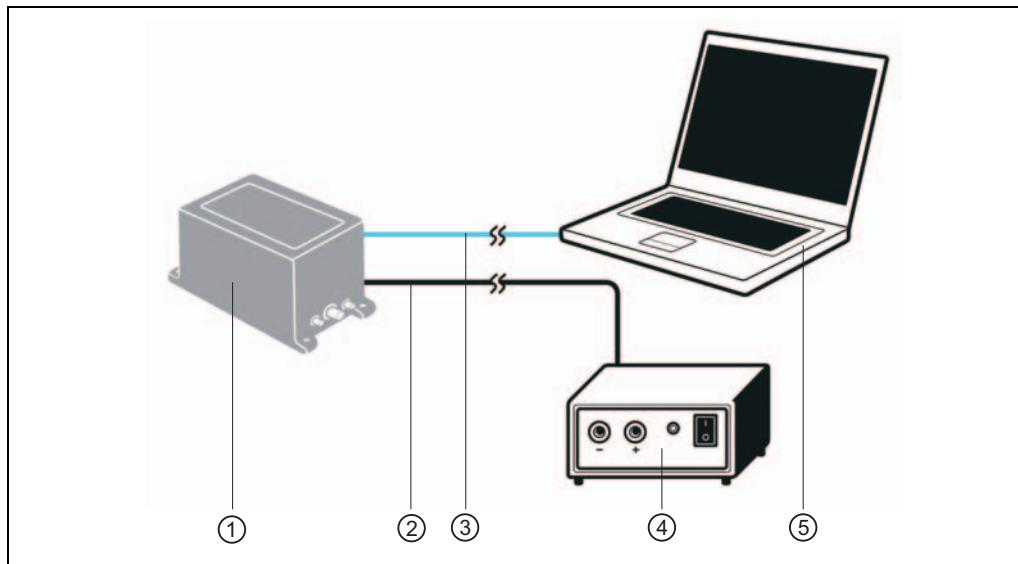

Fig. 5-3: Connection of the voltage supply and wiring of the Ethernet interface
1. Connect the supply cable, e. g. Part no. 2049823 (2 m (6.56 ft)), to the LD-MRS, see Fig. 5-3, page 58.